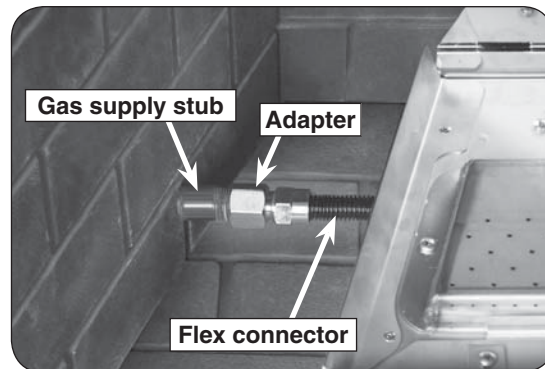

Fig. 6-1 Connect gas supply
2. Locate the gas-supply stub inside the fireplace and remove the cap, if attached (reference Fig. 6-1).
4. **Be sure gas to the fireplace is off.** Remove the adapter that is loosely connected to the flex connector (coming off of the burner system). Attach the adapter to the gas-supply stub using a pipe compound resistant to all gasses. Tighten securely. Then attach the open end of the flex connector to the adapter. Tighten securely (See Fig. 6-1).